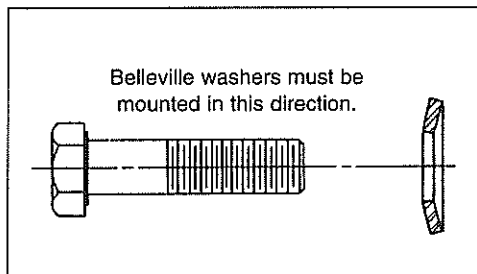
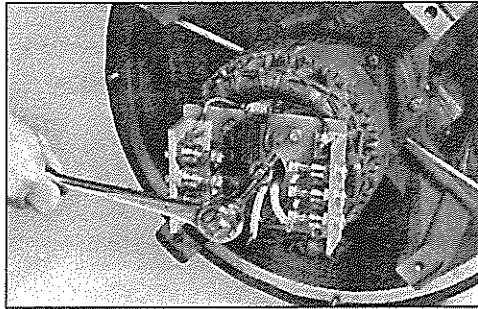
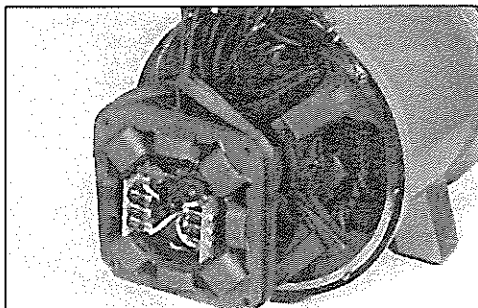

Figure 6-72
Figure 6-73
Figure 6-75
Insert the capscrew and belleville washer (figure 6-72) through the mounting hole in the aluminum standoff plate and secure to the shaft (figure 6-73). Tighten the capscrew until the armature seats on the shaft. Torque to 84 ft-lb (114 N-m) for 1/2" bolt or 190 ft-lb (255 N-m) for 3/4" bolt.
3. Position the exciter field leads at the left (9 o'clock) inboard position. Using a suitable lifting device, mount the exciter stator on the front end bracket mounting pads and align the mounting holes (figure 6-75). Mount with the capscrews and belleville washers (figure 6-72). Torque the capscrews to 60 ft-lb (81 N-m). Route and secure the exciter stator leads away from any moving parts.